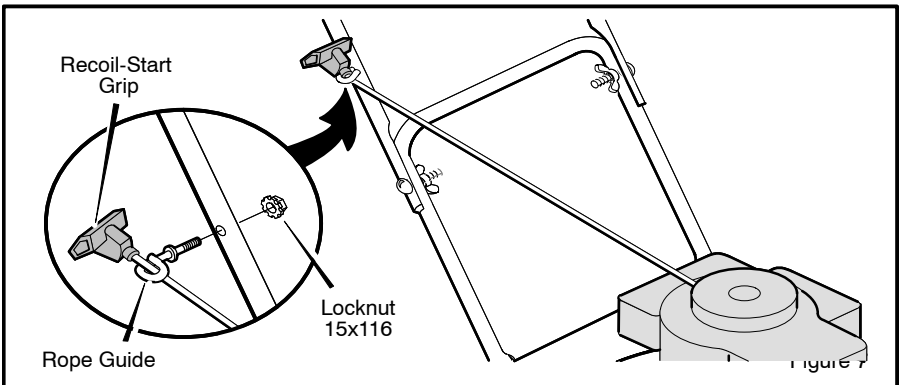

Figure 7
6. Hold the engine stop lever against the handle. Slowly pull the recoil-start grip. To attach the **recoil-start grip** to the **rope guide**, twist the rope through the **rope guide** mounted on the right side of the handle. Fasten with a **locknut** (Figure 7).